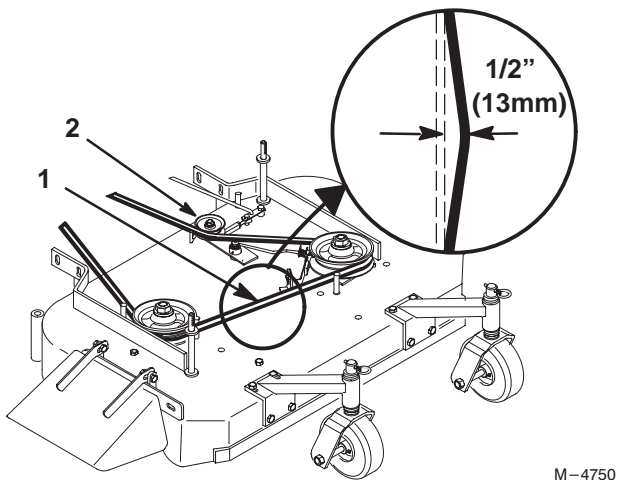

Figure 48
3. Remove mower belt (Fig. 48).
7. Install the mower belt (Fig. 48).
3. Remove idler pulley and then remove worn belt (Fig. 48).
Note: Proper belt tension is 10–15 lbs. with the belt deflected a 1/2" (13mm) halfway between pulleys (Fig. 48).